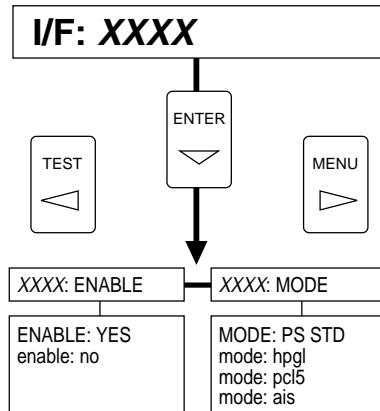

Fig. 5.7 The LocalTalk, EtherTalk, and LinePrinter Menus
**Note:** The XXXX in figure 5.7 will be replaced by the specific interface menu chosen.